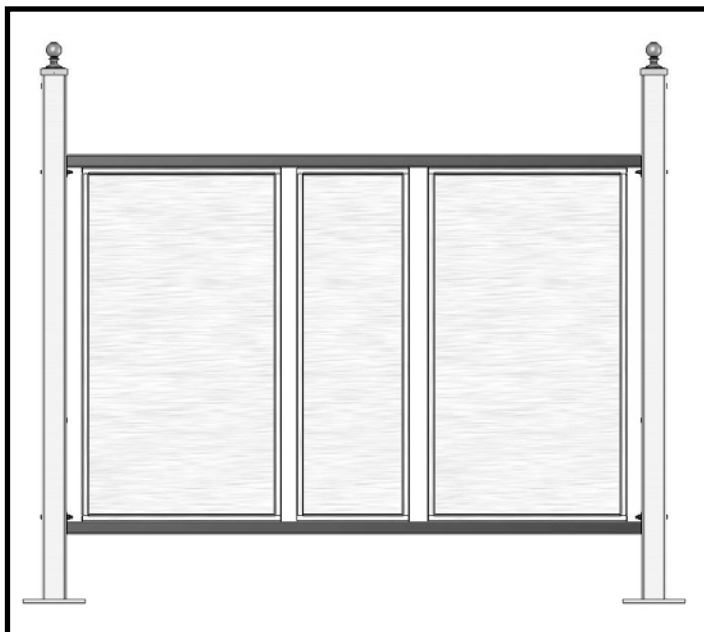

Figure 27 – Casing adjustment – shown with gap between casings
Note: Casings may be placed directly next to each other or with equal spacing distance between them. Final installation placement is up to the individual installer. *See Figures 27 and 28.*
- f) Adjust casing position to user preference. *See Figures 27 and 28.*